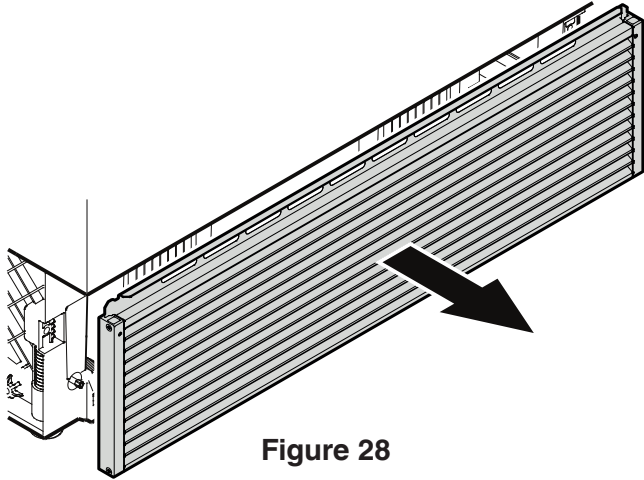

Figure 28
- Open the bottom freezer drawer and remove the ventilation grille by pulling forwards - **Figure 28**. The grille is supported magnetically so no tool is required for removing.